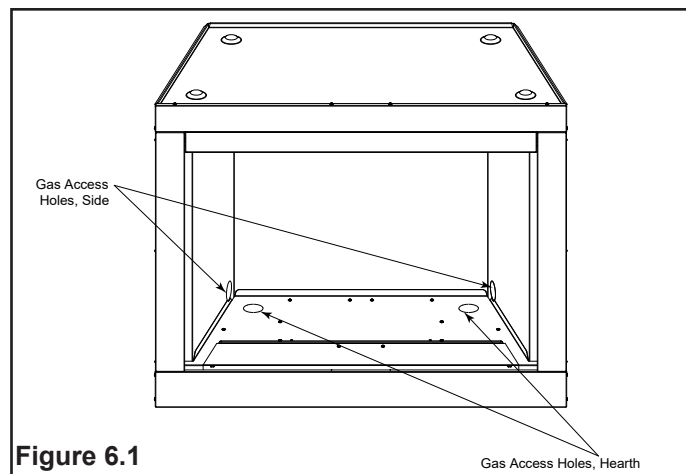

Figure 6.1
- Gas line may enter from the left or right side of the firebox. Knockouts are provided on sides of the firebox, as well as on the firebox bottom. See Figure 6.1.